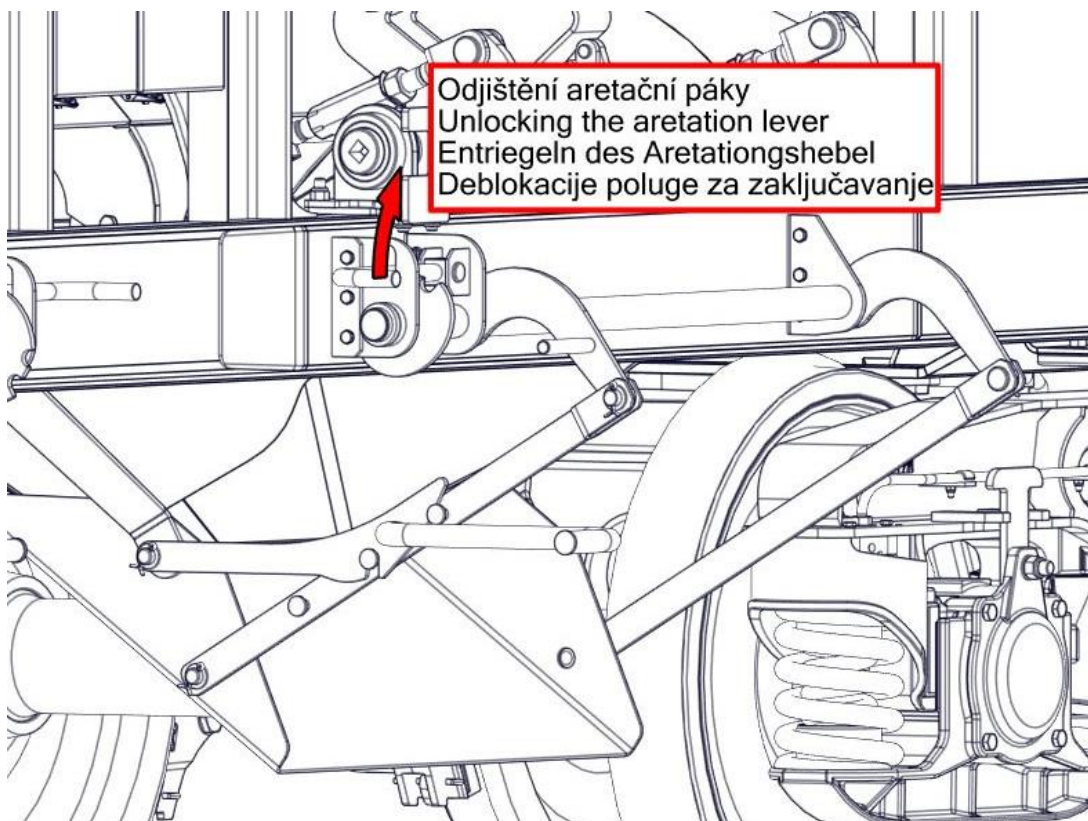

Fig. 16
- Lift the shaft lever - Fig. 16